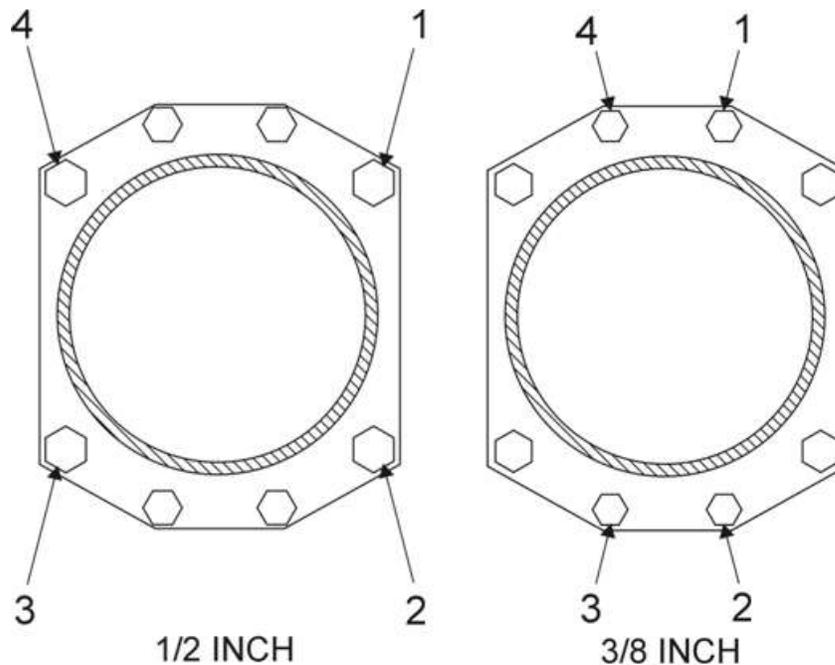

Figure 28
- (1) Torque the 1/2 in. nuts to 25 ft.-lb (34 Nm) in the sequence shown in Figure 28.
- (2) Torque the 1/2 in. nuts to 50 ft.-lb (68 Nm) in the sequence shown in Figure 28.
- (3) Torque all 3/8 in. nuts to 25 ft.-lb (34 Nm) in the sequence shown in Figure 28. The torque sequence for these nuts is optional.
- (4) Use the same sequence shown in Figure 28, complete a torque check to 50 ft.-lb. (68 Nm) for all 1/2-in. nuts on the cylinder base studs.
- (5) Tighten both ends of the free thru-studs at the same time at the all locations. Make sure all thru-studs have at least 1-1/2 threads above attaching nuts at both ends.
- (6) Make sure all cylinder base hold-down nuts are torqued. Complete a torque check of all nuts on the cylinder base using the torque wrench to apply the appropriate torque on each nut for 5 seconds. If the nut does not turn, it is correctly torqued.
- (7) Apply torque seal to all cylinder base hold-down nuts.